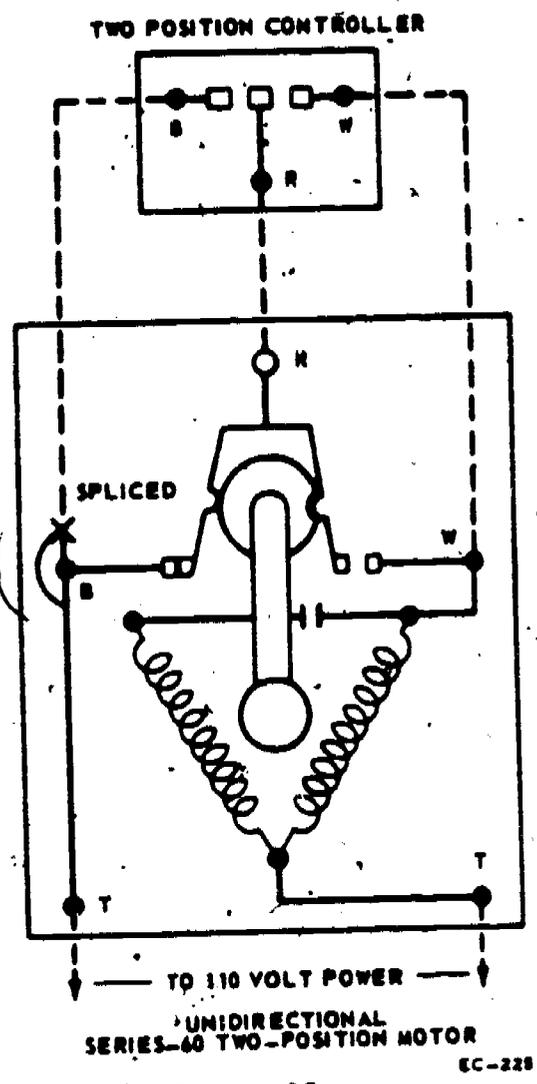
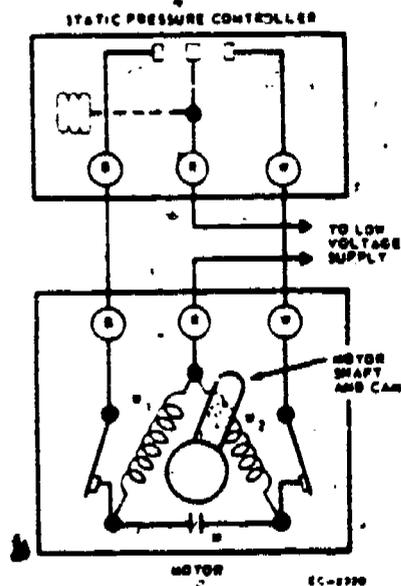

Figure 20.
Figure 22. Complete Series-60 Floating Control Circuit
The series-60 control circuits make and break electrical circuits which results in two kinds of responses--two-position, figure 20; or floating, figure 22.
2. Motorized dampers for static pressure regulation, figure 22. (Static pressure regulation will be used to demonstrate the operation of the series-60 floating control loop.)
Figure 22 illustrates a complete series-60 floating control circuit. The equipment includes the following: